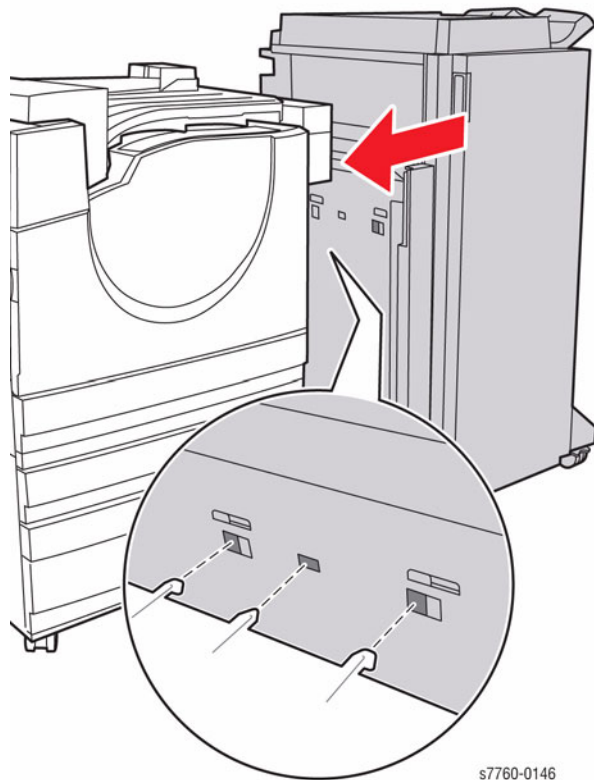

Figure 1 Securing Finisher to the Printer
1. Verify the Finisher is properly latched and secured to the Printer (Figure 1).